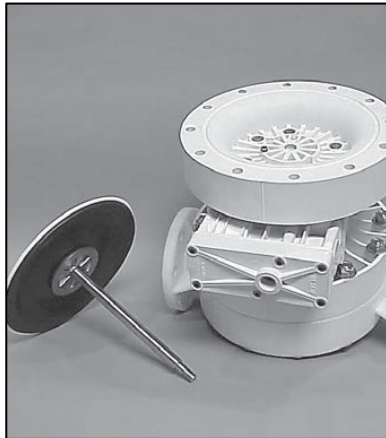

Figure 10a
With the adjustable wrenches, remove the bolts that secure the liquid chamber to the air chamber. Using an adjustable wrench, or by rotating the diaphragm by hand, remove the diaphragm assembly. (Figure 10a).
1) The outer piston, diaphragm and inner piston remain attached to the shaft and the entire assembly can be removed from the center section (Figure 10a).